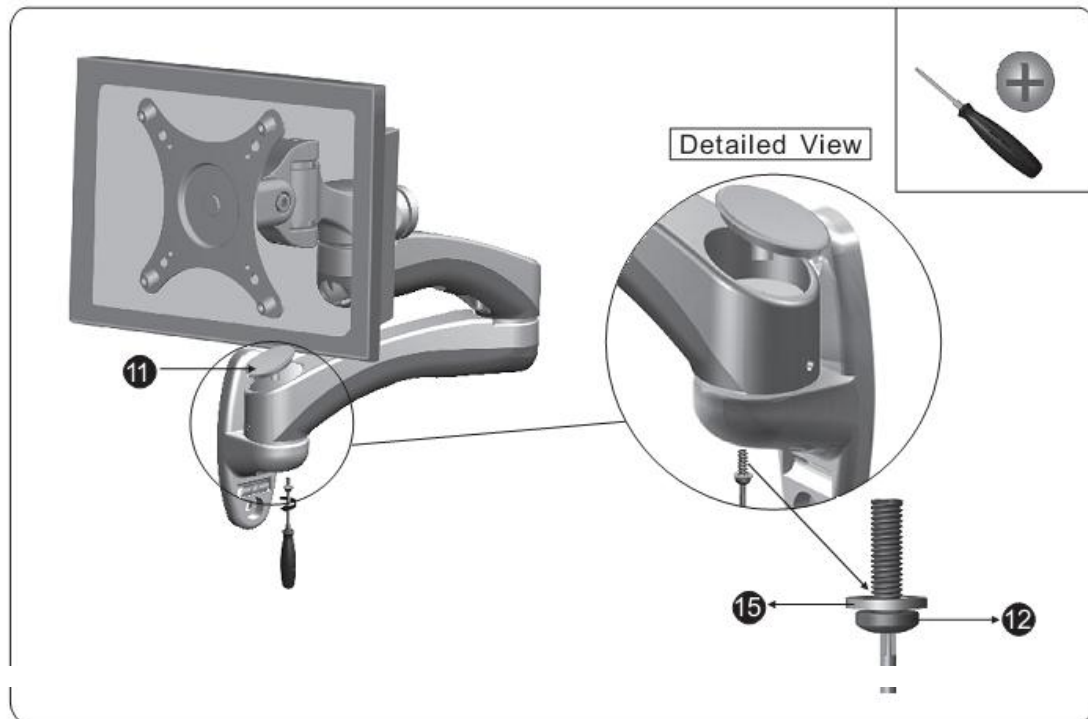

Figure 3-3
3. Place the Cover (11). Insert the Phillips Screw M6x12mm (12) and Plastic Washer (15) and tighten using a Phillips Screwdriver. Do not over tighten. This is to help prevent the LCD Arm Assembly from detaching (**See Figure 3-3**).